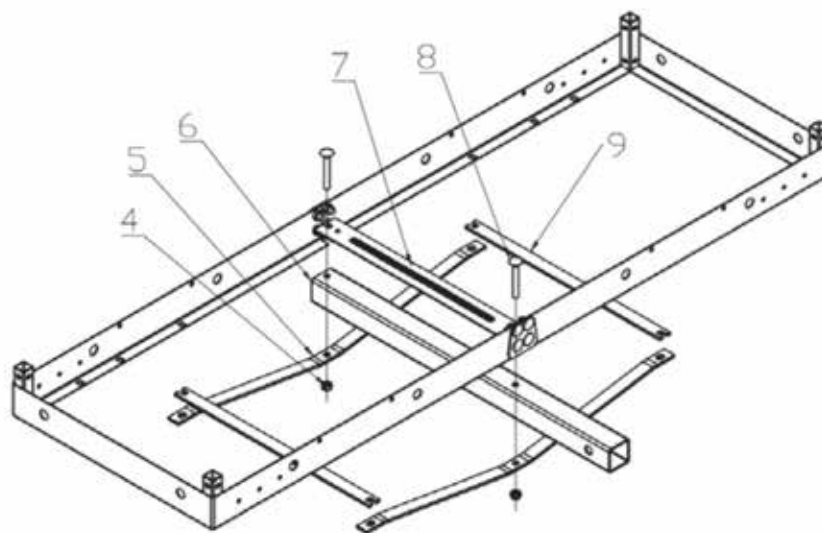

FIG. 2
Step 2. Place the tie plate (7) on the middle of the assembled supporting frame (1), then place the frame (1) over the tube assembly (6) and two support braces (5). Secure using two M10x75 bolts and two M10 lock nuts (4). Do not tighten completely yet. See Fig. 2.